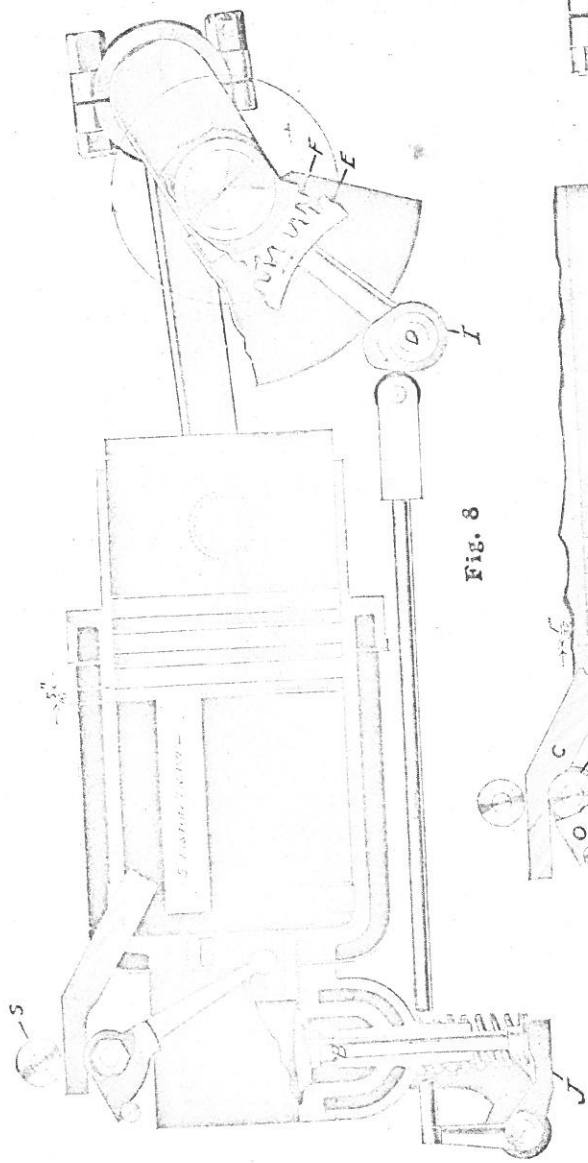

FIG. 8
The piston, traveling as indicated by the arrow, compresses the charge, which is ignited at or before the end of this stroke by the spark plug (see electrical explanation), and drives the piston forward to the position as in Fig. 8. During these two compression and working strokes both valves (A and B) should be closed.
Fig. 8 illustrates the end of the third or working stroke of the cycle where the exhaust valve commences to open $5/16$ inch before the center. During the fourth or exhaust stroke the gases are expelled from the cylinder through the valve (B). The exhaust valve (B) is operated by the cam (I) which pushes the exhaust rocker arm (J) and lifts the exhaust valve (B).